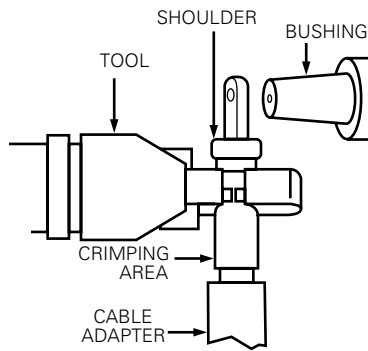

Figure 10. Line illustration of crimping area
- Make first crimp 1/2" (13 mm) below shoulder of compression connector. (Refer to Figure 10.)